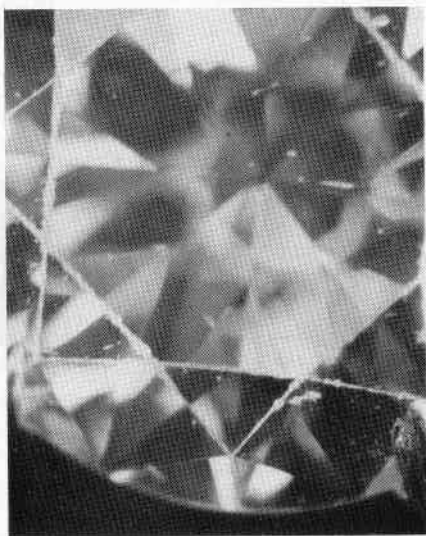

Figure 4
*Figure 4* is an illustration of a mistake that can be made by even an experienced jeweler. In this case, the jeweler advised a customer that her dia-